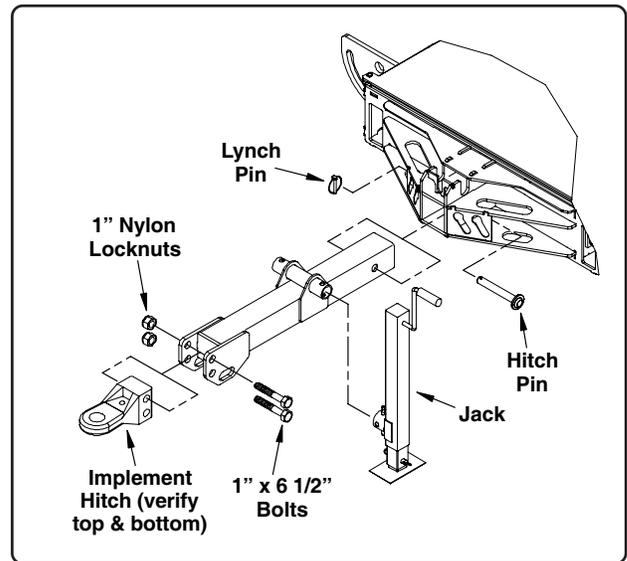

Fig. 15
1. Insert the hitch tube into the hopper as shown in Fig. 15 below. Secure the hitch using the short 6" (15.2 cm) long hitch pin and secure with the lynch pin provided.
2. Install the implement hitch to the end of the hitch tube securing it with two 1" x 6 1/2" bolts and nylon locknuts (See Fig. 15). **Note: Verify top and bottom of implement hitch when installing.**